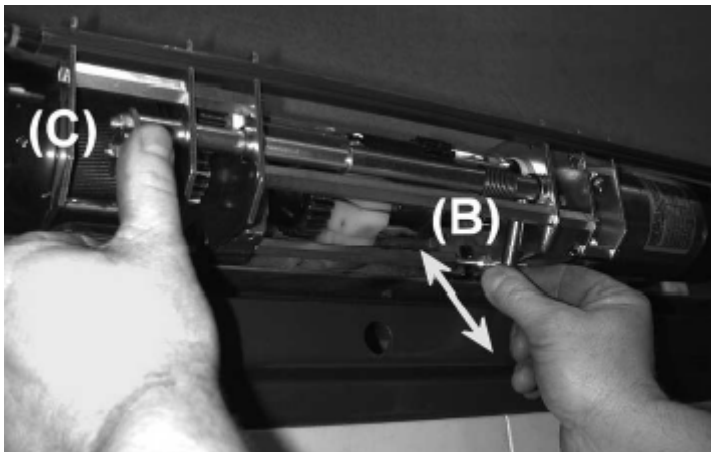

Figure 4-11
Slightly move downward pin (B), keeping pressed bearings (C) against the tape (fig. 4-11).
Slightly move upward pin (B), keeping pressed bearings (C) against the tape (fig. 4-11).